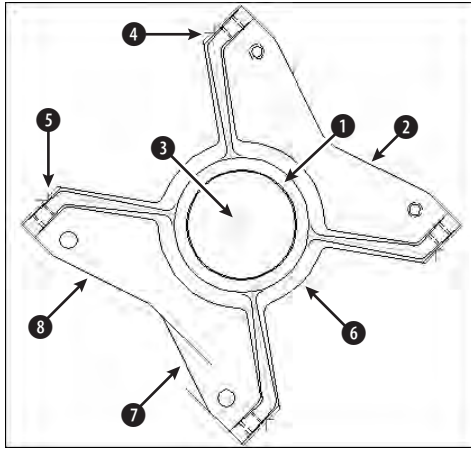

Figure 14-21: A bearing housing for an industrial washing machine
2. Save the file as `ab14-05.dwg` in your AutoCAD Bible folder. This is a view of a bearing housing for an industrial washing machine, as shown in Figure 14-21. OSNAP should be on. Set running object snaps to endpoint, intersection, and center. If the Dimension toolbar isn't visible, right-click any toolbar and check Dimension.
4.  Choose Diameter Dimension from the Dimension toolbar. At the **Select arc or circle:** prompt, choose the circle at **1** in Figure 14-21. At the **Specify dimension line location or [Mtext/Text/Angle]:** prompt, pick a location for the dimension line.
5.  Choose Radius Dimension from the Dimension toolbar. At the **Select arc or circle:** prompt, choose **2** from Figure 14-21. At the **Specify dimension line location or [Mtext/Text/Angle]:** prompt, pick a location for the dimension line. The line may appear to the left of the angle; try moving the cursor until the dimension appears to its right.
Specify angle vertex: *Pick 3 in Figure 14-21.*
7. Repeat the DIMANGULAR command. At the **Select arc, circle, line, or <specify vertex>: prompt**, pick the arc at ⑥. At the **Specify dimension arc line location or [Mtext/Text/Angle]: prompt**, pick a location for the dimension line.
8. Repeat the DIMANGULAR command. At the **Select arc, circle, line, or press ENTER: prompt**, pick ⑦ in Figure 14-21. At the **Second line: prompt**, pick ⑧. At the **Dimension arc line location (Mtext/Text/Angle): prompt**, pick a location for the dimension line to the left of the model.